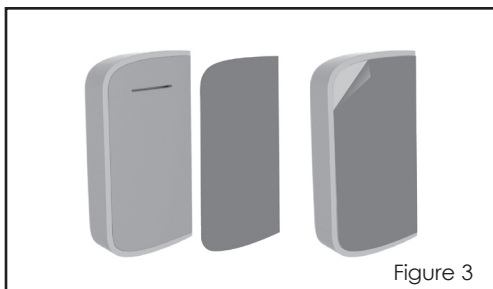

Figure 3
2. Use the provided double-sided tape on the sensor. Attach the sensor to the door/window frame. Press firmly and hold in place for a few seconds (Figure 3). Secure it with silicone if needed.